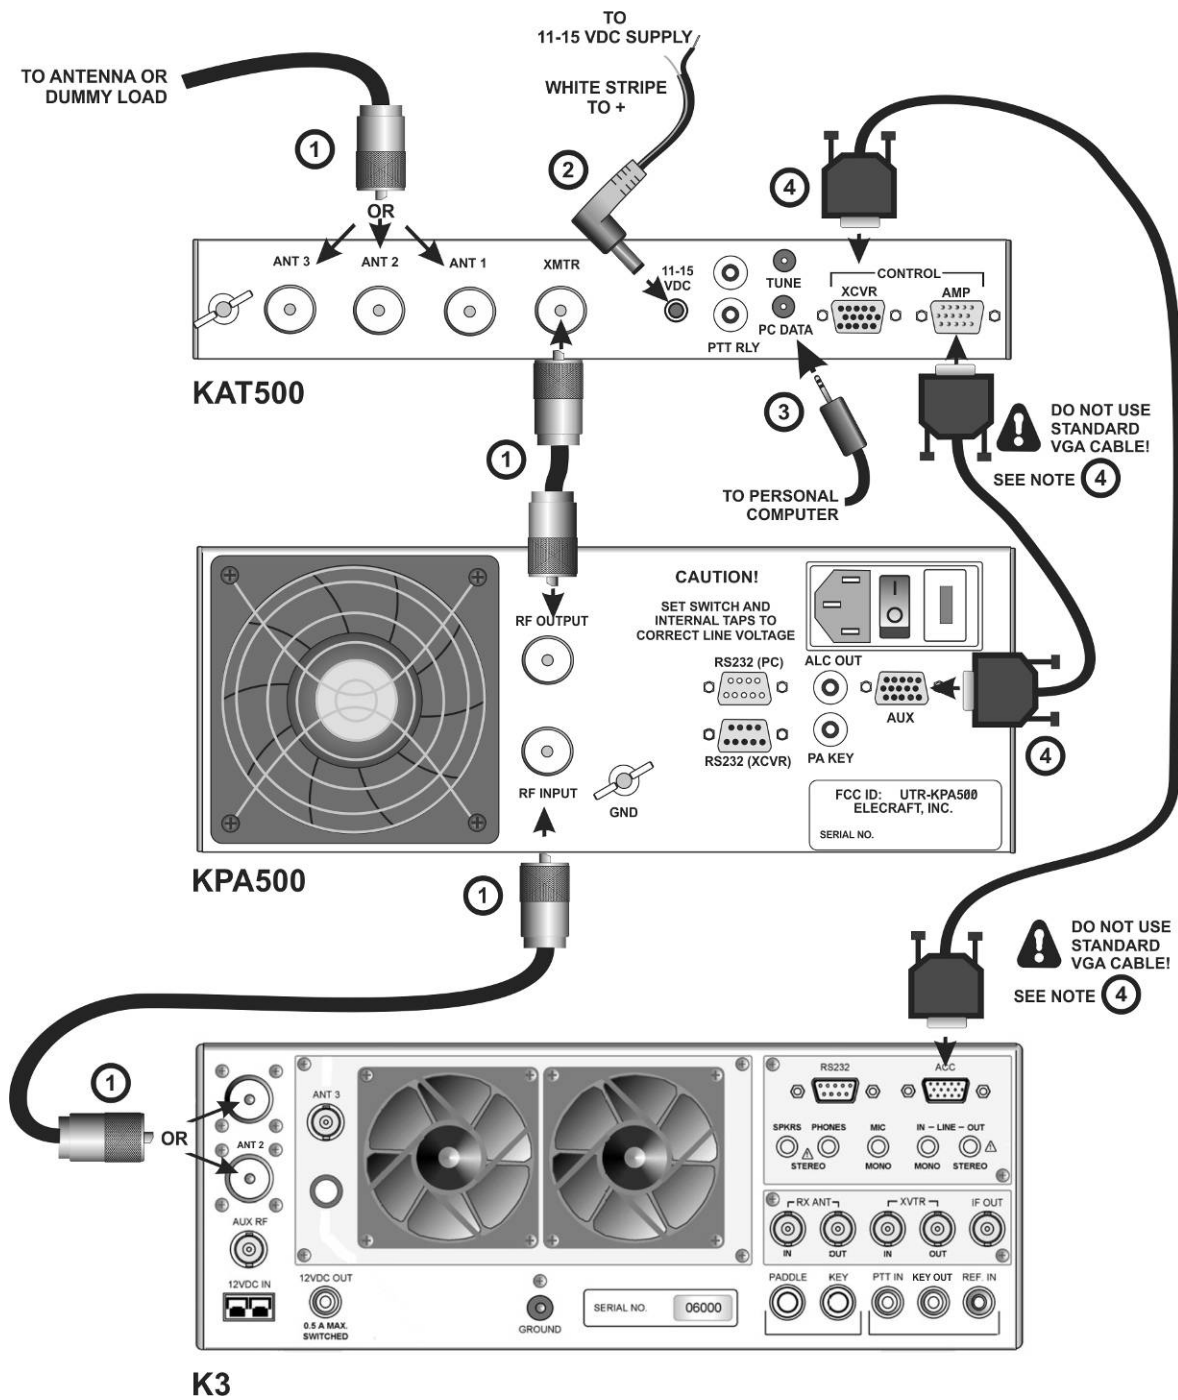

Figure 1. Cabling Diagram: Elecraft K3, KPA500 and KAT500 Using E850463 Aux Interface Cables.
The basic E850463 Aux cabling setup is shown in Figure 1. If your station setup requires that other equipment (e.g. SteppIR controller) have access to the key line to inhibit the amplifier, use the cabling described in Figure 2.
The KAT500 works well with any H.F. transceiver covering 1.8 through 54 MHz and amplifier delivering up to 1,000 watts output (see *Specifications*, page 2). If you have an Elecraft K3 transceiver and KPA500 amplifier you can connect them to the KAT500 as shown here. However, for best integration of the K3 equipment, we recommend that you use the E850463 Aux interface cable as shown on page 3 and Figure 1.
- **IF YOU ARE USING THE KAT500 WITH A K3 CONNECTED USING THE E850463 AUX CABLE** (Setup Figure 1 or Figure 2): Apply power to the KAT500 before or at the same time you turn the K3 on. If you turn the K3 on first the K3 may not initialize until you apply power to the KAT500.